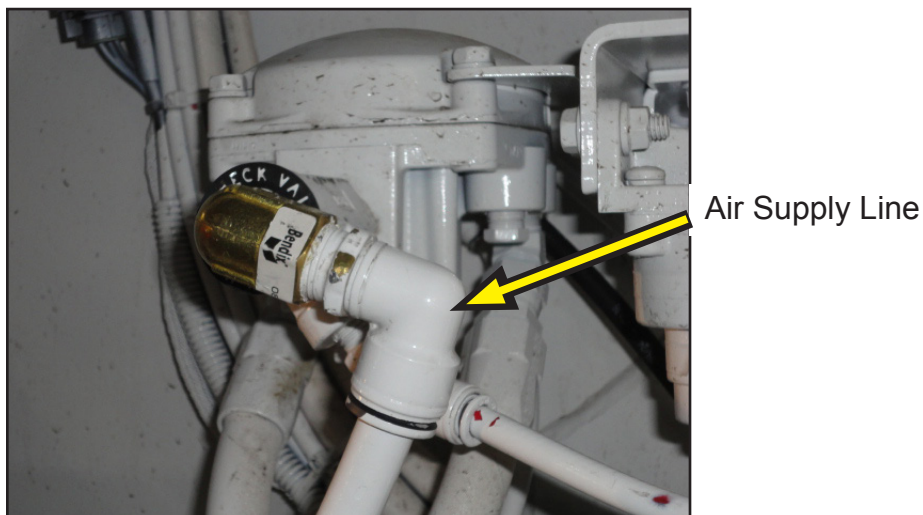

Figure 5: Attach the air supply line to the check valve.
- Attach the air supply line to the check valve (Figure 5). Tighten until secure.